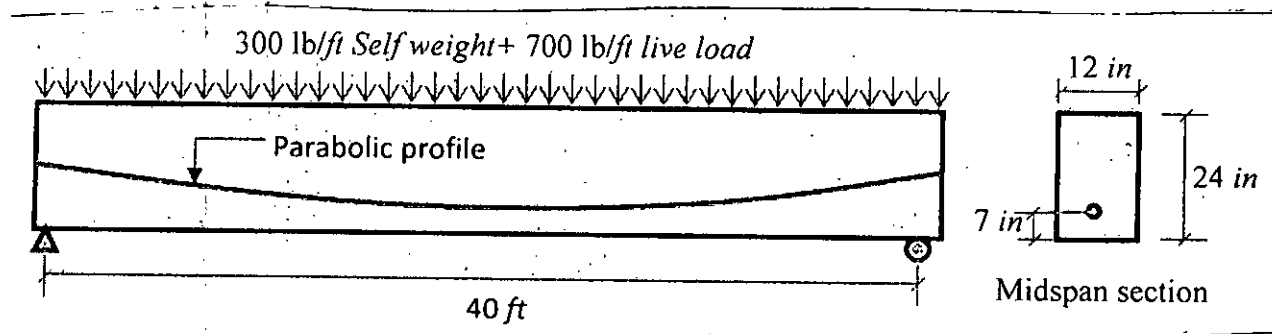

Fig. 4
(c) A post-tensioned bonded concrete beam as shown in Fig. 4 has a prestress of 355 kip in the steel immediately after prestressing and reduces to 308 kip due to losses. In addition to self-weight of 300 lb/ft, there is a live load of 700 lb/ft. Compute the extreme fiber stresses at midspan, (16)